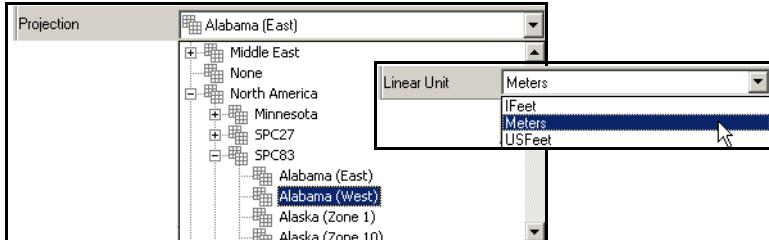

Figure 3-67. Projection and Linear Unit Lists
- Set the Projection and Linear units (Figure 3-67).